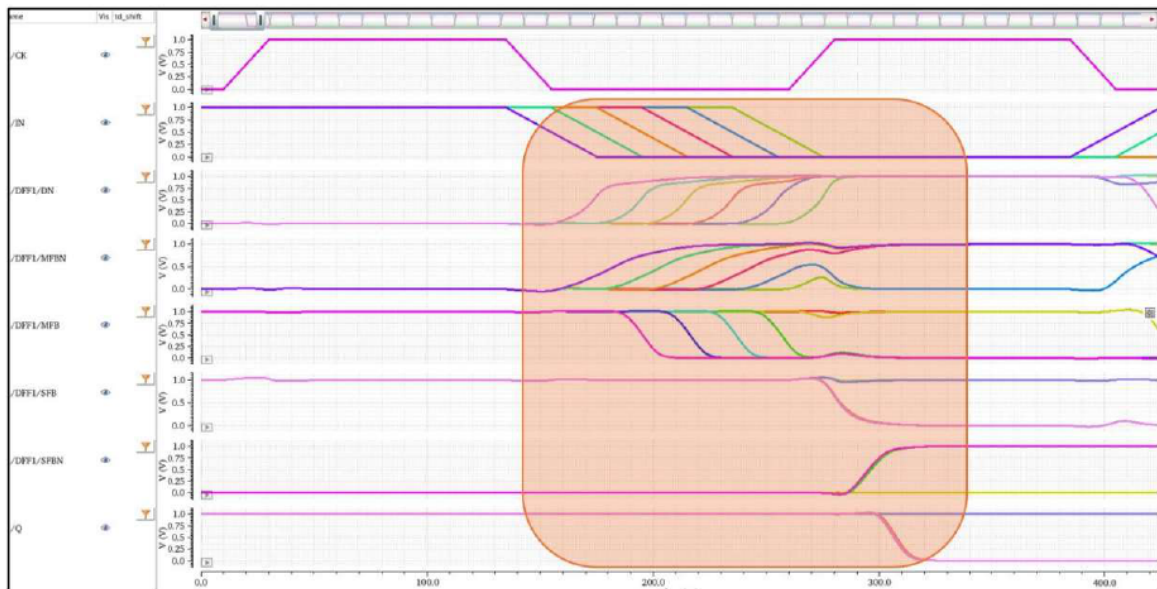

Figure 13. The waveform internal nodes of DFF
- Explain the origin of the intrinsic setup time requirement in a D flip-flop, with reference to the master-slave latch architecture and the associated timing waveforms. (Explain the response at each internal node of DFF as Figure 13)